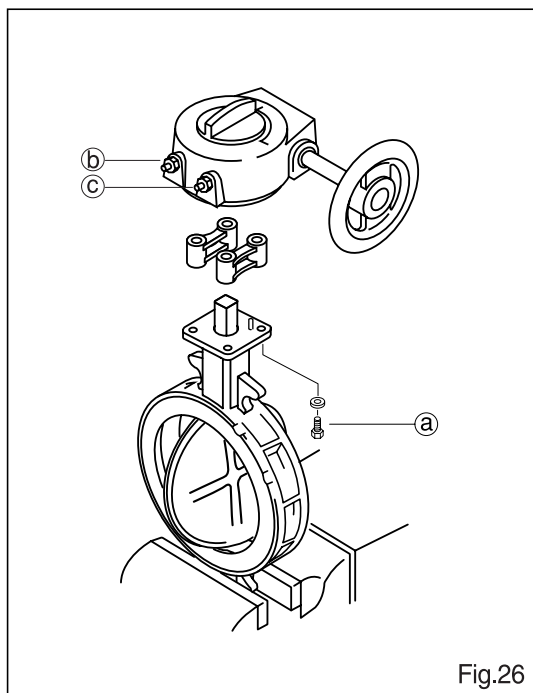

Fig.26
2. Gear operation type (Fig.26)